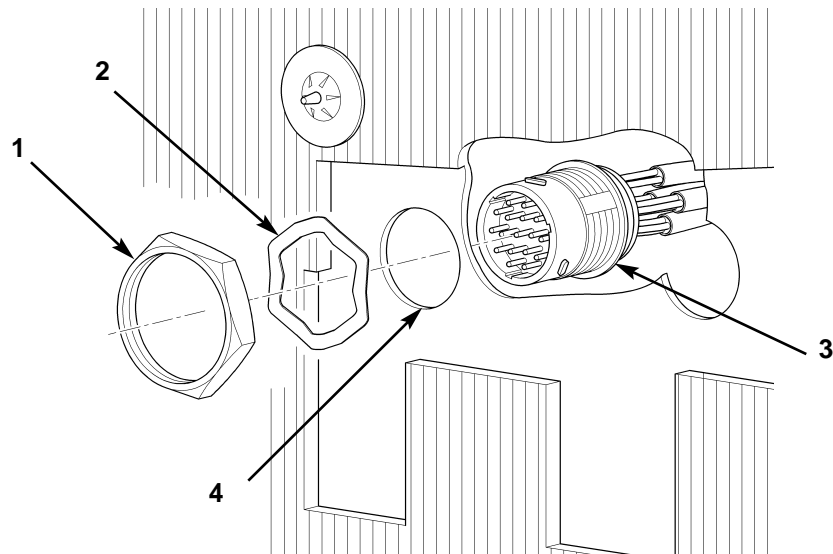

Figure 4. Removing Bulkhead Connectors from Firewall.
6. Working outside cab, remove nut (figure 4, item 1) and washer (figure 4, item 2) from modulator harness bulkhead connector (figure 4, item 3), and push connector (figure 4, item 3) through firewall hole (figure 4, item 4).